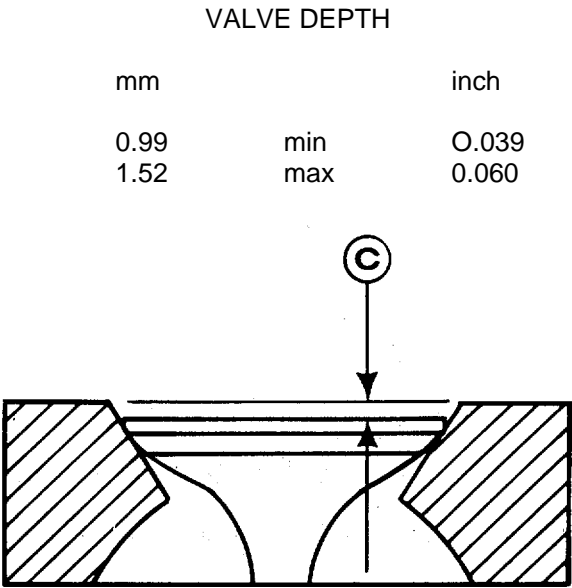

FIGURE 4-19. Check Valve Depth (C).
(7) Check valve depth (C). (FIGURE 4-19)